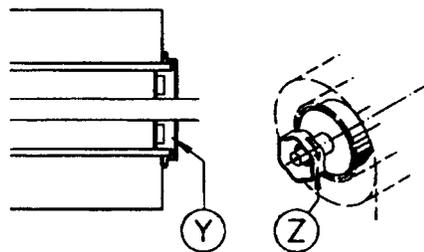

Figure 4-7
Slide the film roll onto the Bobbin until the roll edge touches the reference disk (Y) in Figure 4-7.